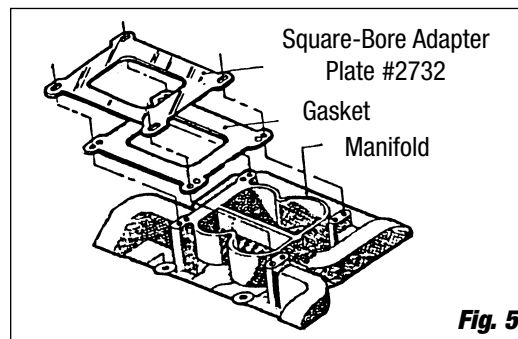

Fig. 5
5. **You must use Edelbrock Adapter #2732** when installing a Performer Series carburetor on certain Edelbrock intake manifolds. In those applications, install the adapter as shown (*See Fig. 5*).